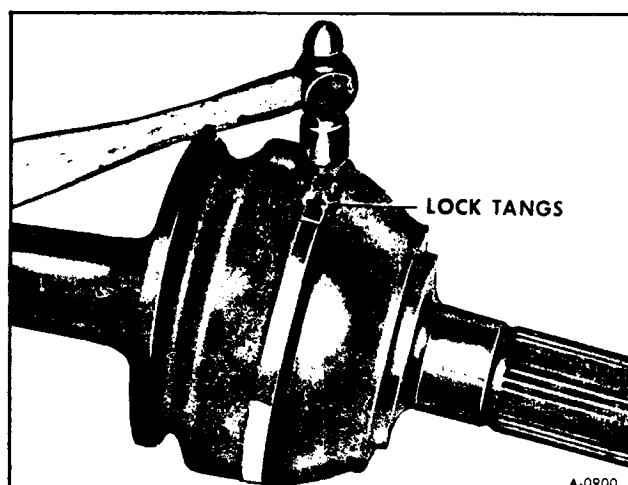
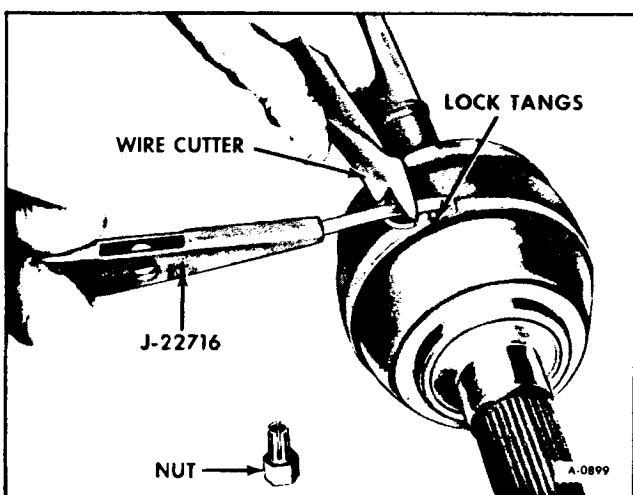

Figure 19—Bending Lock Tangs
Figure 18—Cutting Off Band
g. Back tool off just enough to permit tapping band with a hammer until it lies flat across top of retainer. Unwind the excess strap and cut it off close to retainer as shown in Figure 18. Tap the tabs down until they retain strap. Tap lightly as excessive force will damage seal (see figure 19).